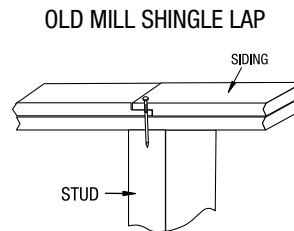

Figure 3
- At corners, use TruWood Trim (see Fig. 3).